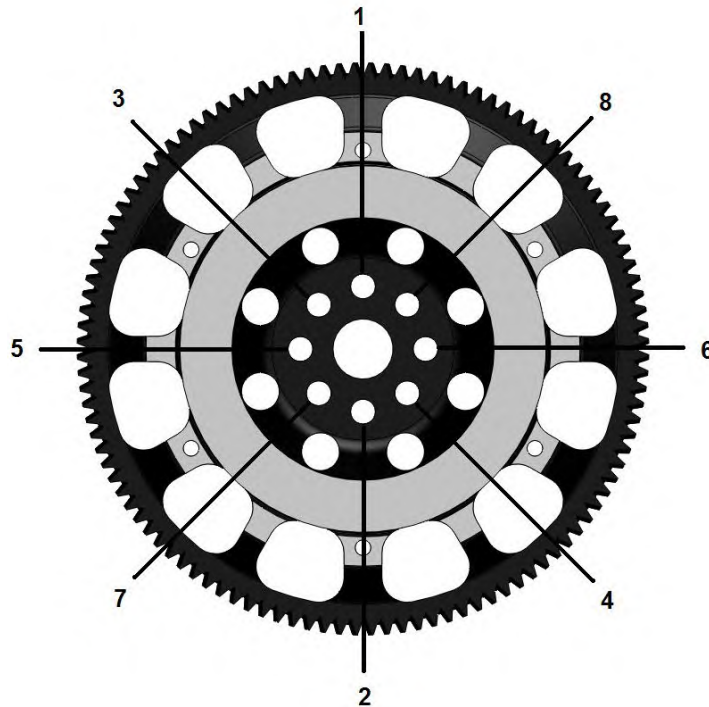

FIGURE 2
5. Use new OEM bolts to mount the flywheel to the crankshaft. See note above. Apply thread locking compound to the threads of each bolt and tighten to the factory torque specifications using the sequence shown in figure 2 below. Failure to use thread locking compound can result in oil contamination of the clutch which will cause damage to the clutch and/or flywheel as well as other vehicle components and will void all warranties. Do not use air impact tools to tighten ACT clutch components.